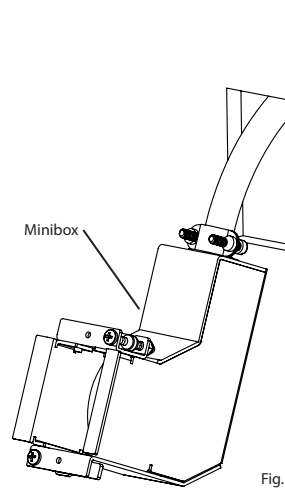

Fig. 3
13. Feed the **Minibox** into the wall opening at a slight angle (Fig. 3) until the side tabs are pressed against the mounting surface (Fig. 3).